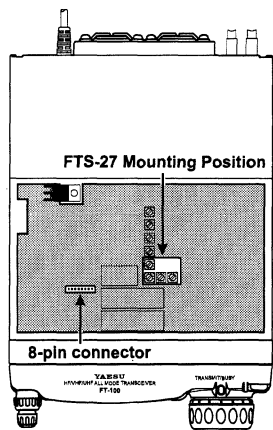

Figure 5
3. Refer to Figure 5, locate the unused 8-pin connector on the Main Unit (just behind the Main Dial knob). Plug the **FTS-27**'s cable into the connector, then peel the covering from the exposed side of the tape, and press the **FTS-27** onto the Main Unit.